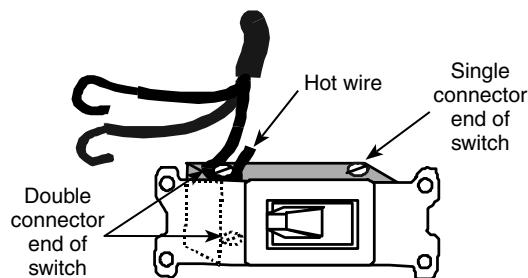

Figure 8-17
10. Turn the power off and connect it to either of the contacts at the end of the switch that has two contacts — the double-connector end (see Figure 8-17). Don't connect it to the end of the switch that has only one contact.